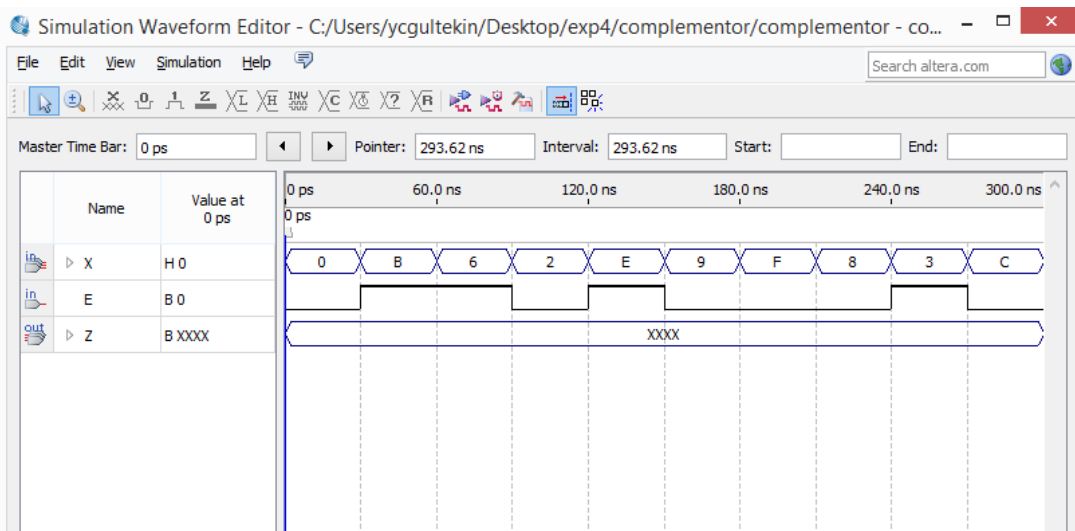

Figure 4.17 Functional simulation window prior to simulation
36. Arrange the waveform by selecting every 30 ns period, right clicking, selecting **Value>Arbitrary Value>Radix: Hexadecimal** and entering the values according to the Table 4.5. Your waveform should be seen like the Figure 4.17.